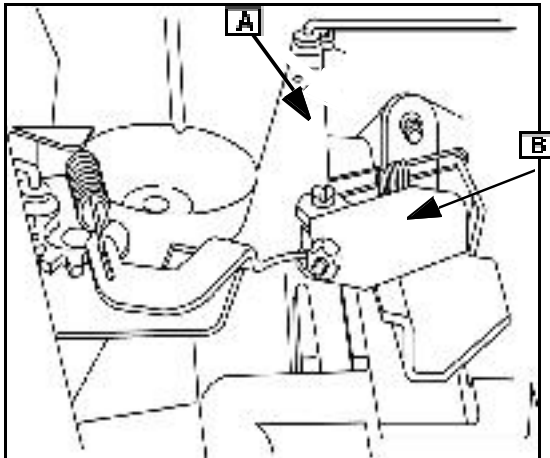

Fig. 31
NOTE: (161432 Type 0080-01) When assembling governor lever assembly (A), ensure that tab on strike plate (B) Fig. 31) is between upper and lower half of lever clamping area.